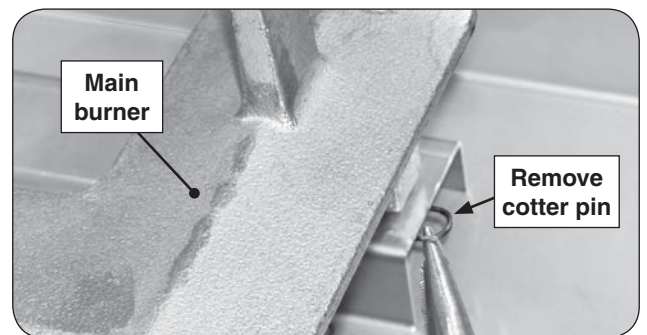

Fig. 41-2 Main burner removal
2. Locate and remove the cotter pin from the left or right rear burner anchoring peg by pulling it straight out of the cotter pin hole using fingers or needle-nose pliers. See Fig. 41-2.